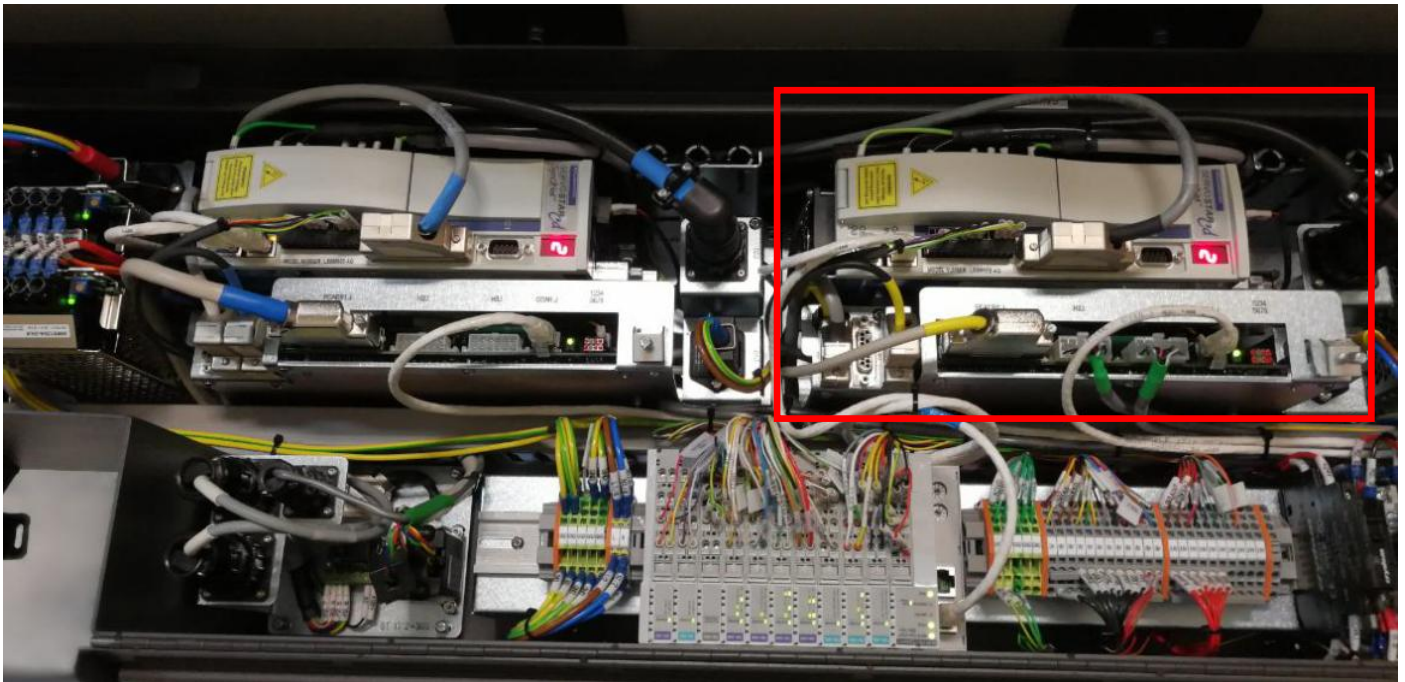

Figure 1
4. Identify X axis Kollmorgen (PN,4XASP-A170)location by refer below Figure 1.